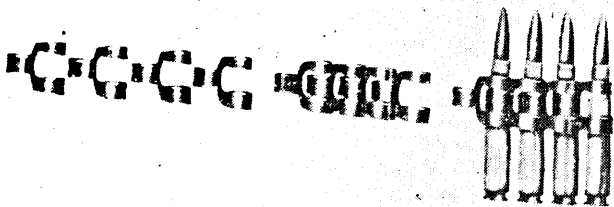

FIGURE 72.—Ammunition links.
a. *Metallic links.*—Metallic links are used to assemble a series of single cartridges to form a flexible ammunition belt. The links nest together and are held in place by the inserted cartridge. (See fig. 72.) In this way, a belt of any length may be assembled. A belt when assembled has a single unused link on one end and a double link on the other. When loading, the double end is fed into the gun.